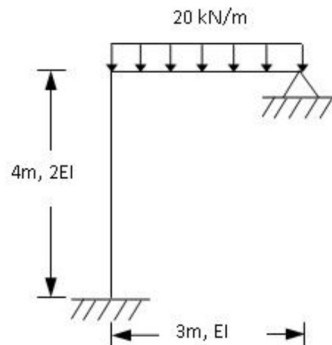

Figure 1
- Q.2 (b)** Analyse the rigid jointed plane frame as shown in figure 1 using FEA. Assemble element equations, global equations and introduce the boundary conditions. Use $E = 200 \text{ GPa}$, $I = 8 \times 10^6 \text{ mm}^4$. **(08)**